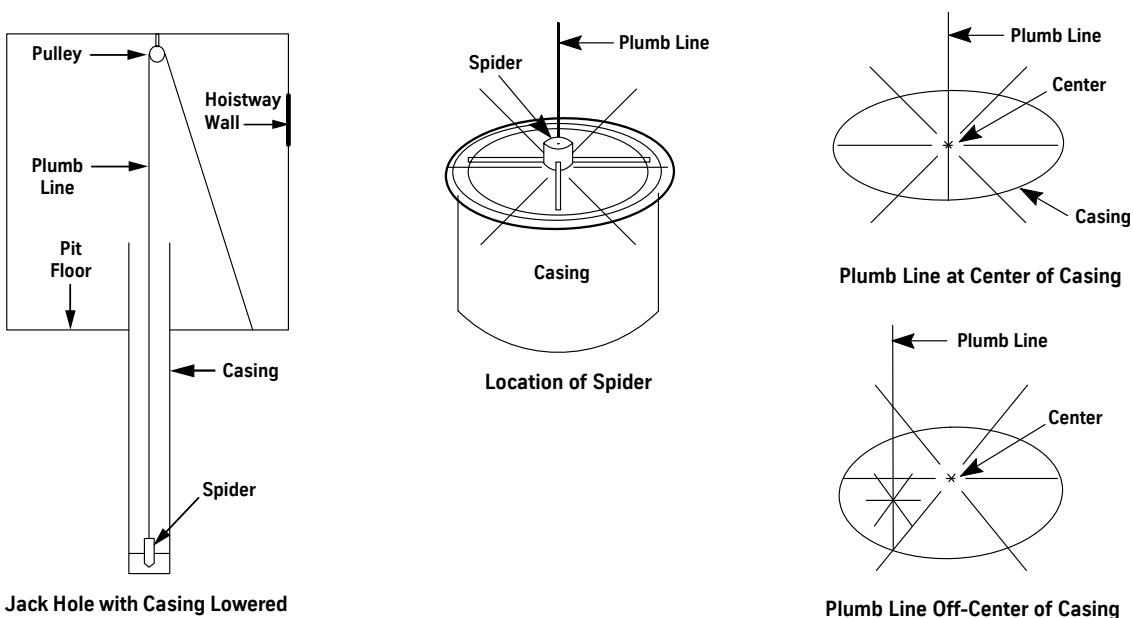

Figure 11 - Spider Jack Plumbing Method
2. Locate the connection (shown as the pulley) directly above the center of the jack. See Figure 11 for all steps in this procedure.
7. Slowly lower the spider into the casing, and note whether the plumb line moves as the spider descends. See Figure 11.